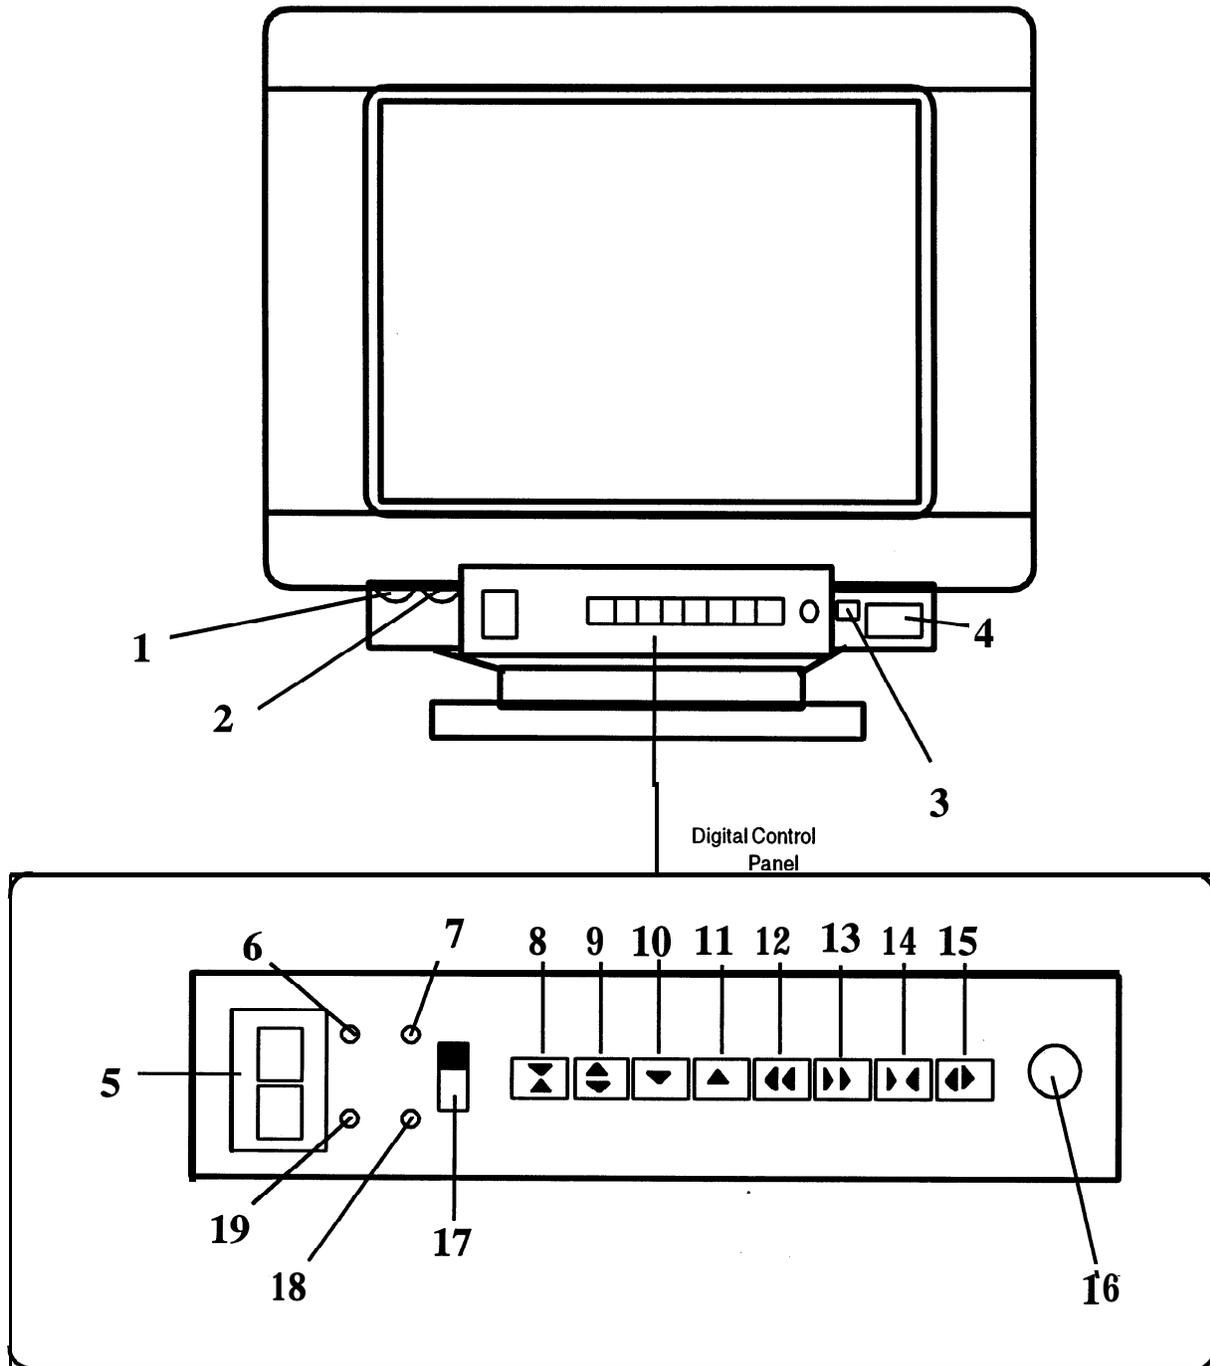

Figure 2-5. IOS and Driver Monitor 14-inch (MAG) Controls and Indicators
2.1.5 **IOS Monitors.** The following controls and indicators are located on the front of the IOS monitors and are shown in Figure 2-5, 2-5a, and 2-5b.